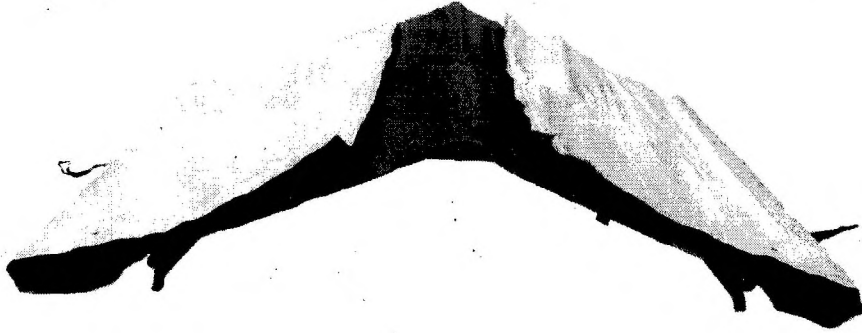

Fig 12 Roof frame with insulation panel unsecured (typical arrangement)
- 13.2 Lay the roof insulation panel, over the roof with white side facing inwards and fold the sides up onto the roof Fig 12. Loosely attach to the framework by the use of the tensioners, ensuring the ridge of the roof panel is aligned centrally.